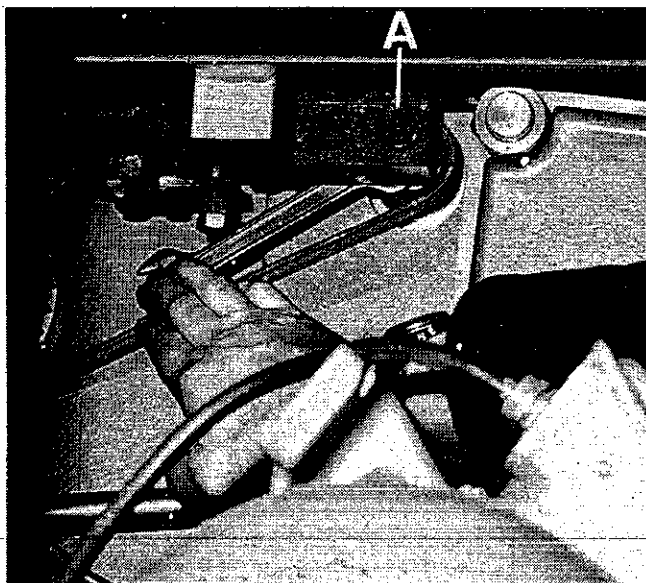

FIG. 41.
10. Replace belt then loosen M12 nut "A", FIG.41, and turn eccentric spindle with 19mm spanner supplied until minimum centre distance is achieved between motor pulley and spindle pulley.
3. Loosen M12 nut "A", FIG.41, and turn eccentric spindle with 19mm spanner supplied until belt is correctly tensioned.